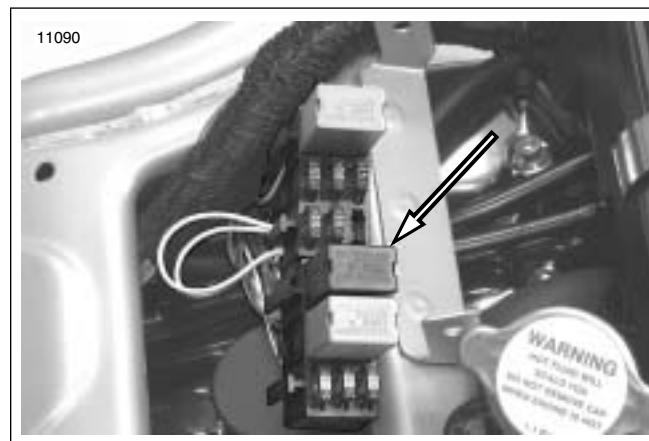

Figure 4-39. System Relay (typical)
5. See Figure 4-39. Use HARNESS CONNECTOR TEST KIT (Part No. HD-41404), purple terminal probe and patch cord.